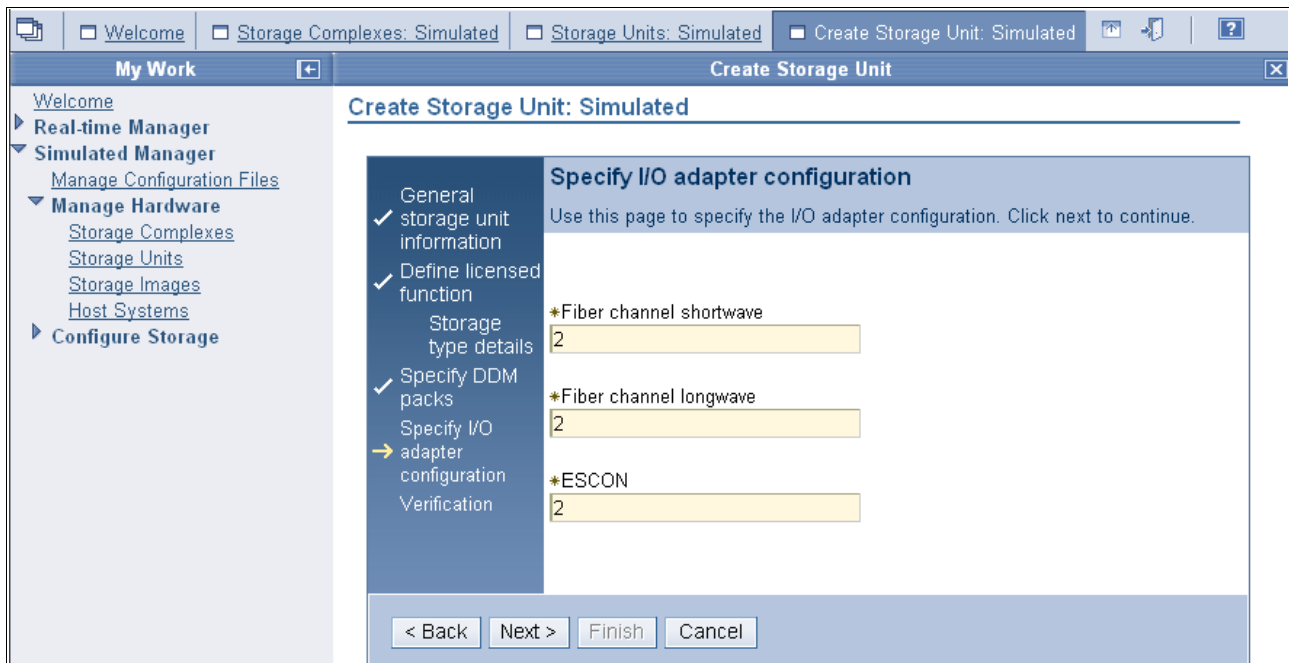

Figure 10-28 Specify I/O adapter configuration panel
5. Click **Add** and **Next** to advance to the Specify I/O adapter configuration panel shown in Figure 10-28.